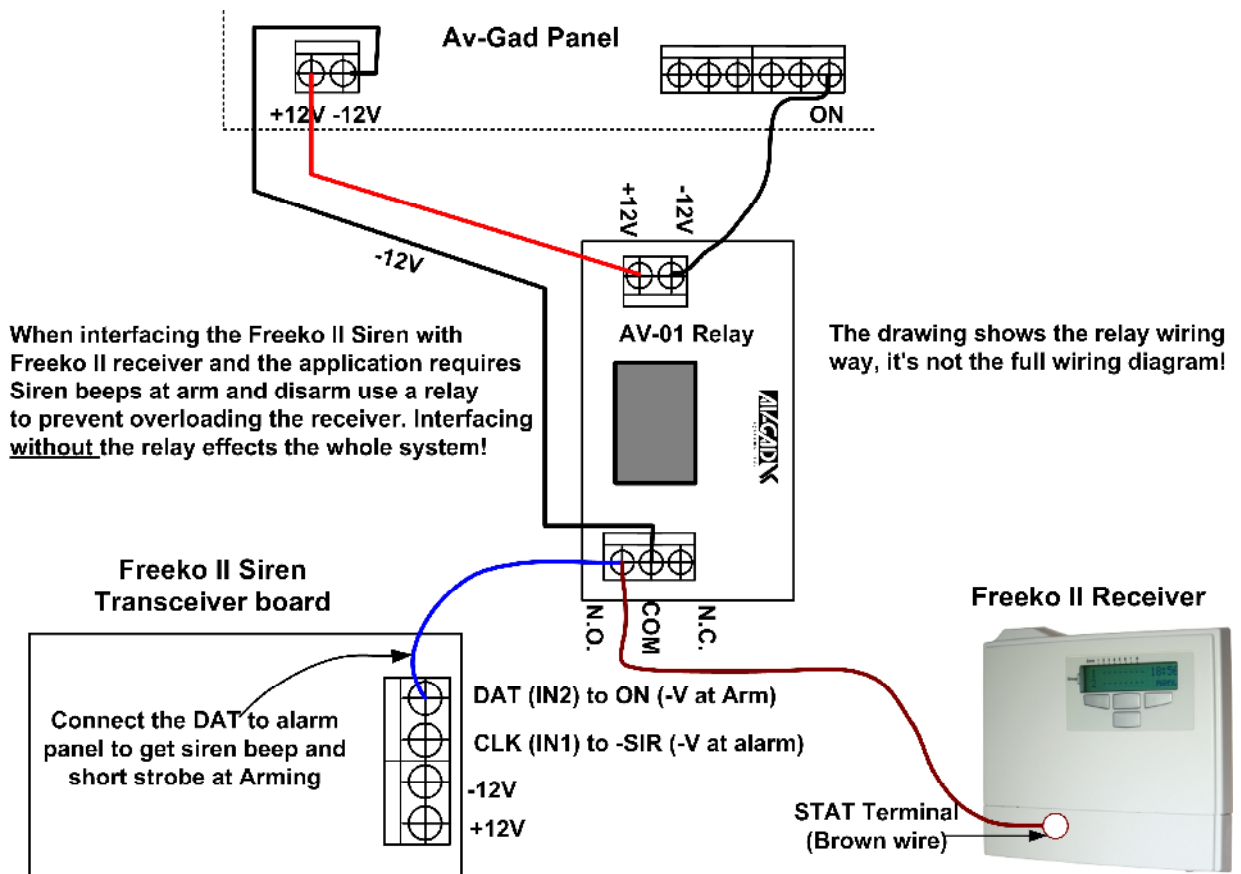

Figure 4: Freeko II siren to activate beeps at arm & disarm
Important: In installation that the Freeko siren is interfaced with Freeko II receiver or wireless alarm panel to obtain the siren beeps upon arming or disarming a relay type AV-01 is required. Refer figure 4. If wired without rely the receiver may be lock or other malfunction.
1. As mention above, the Sirens that are connected to one Transceiver can be divided to two groups from operation purposes. Jumper A (See above) is setting these two groups. Jumper C is enabling the short beeps when arming and disarming the Control Panel - 2 beeps for Arm and 1 beep for Disarm. Notice figure 4 when interfaced to Freeko II system.